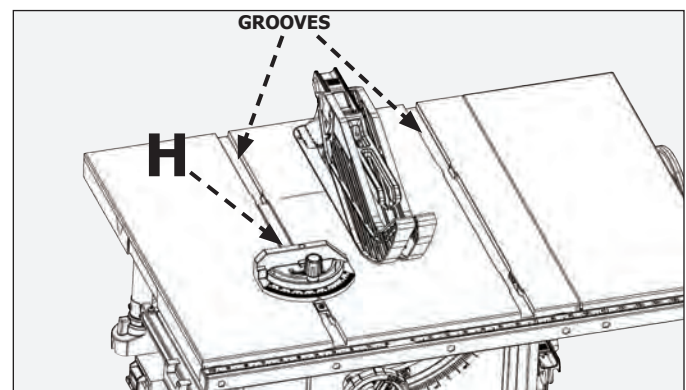

Figure 38
There are two miter gauge grooves, on either side of blade, maximum 30° on both left or right side. When making a 90° cross cut, use either groove. For beveled cross cut use the groove on right so that the blade is tilted away from the miter gauge (H) and hands. (Fig. 38).